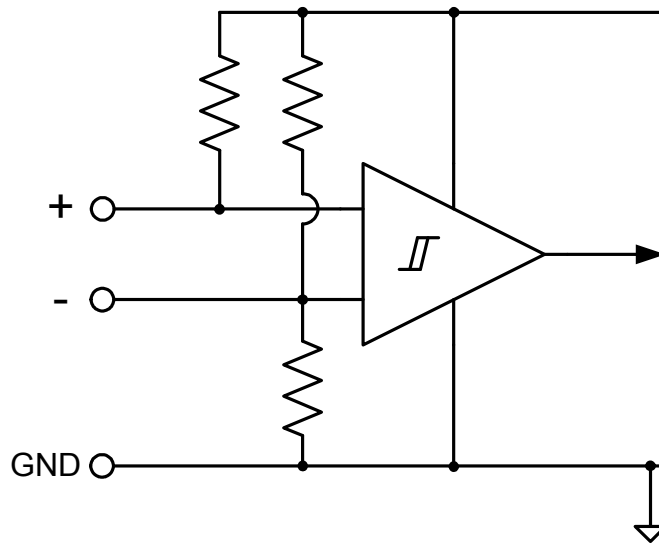

Figure 13: Input circuit used with InPos and InAux signals.
**2.2.2.2. InPos, InAux input signals.** The input InPosA, InPosB and InAux can be driven either by a differential RS422 or by a single-ended TTL driver. The proper connection and the equivalent input circuit are represented in Figure 13.